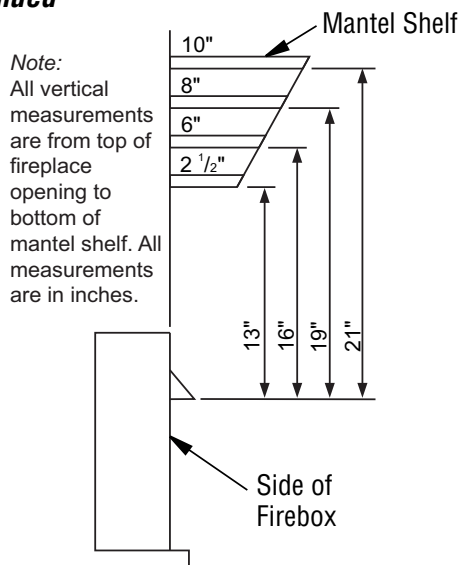

Figure 10 - Minimum Mantel Clearances for Built-In Installation
- C. For mantel clearances, see *Figure 10 on Page 13*.
Built-in installation of this fireplace involves installing fireplace into a framed-in enclosure. This makes the front of fireplace flush with wall. An optional trim kit accessory is available (see *Accessories, Page 34*). Trim will extend past sides of fireplace approximately 1/2". This will cover the rough edges of the wall opening. If installing a built-in mantel above the fireplace, you must follow the clearances shown in *Figure 10, Page 13*. Follow the instructions below to install the fireplace in this manner.
NOTICE: If your installation does not meet the minimum clearances shown in **Figure 10**, you must do one of the following: